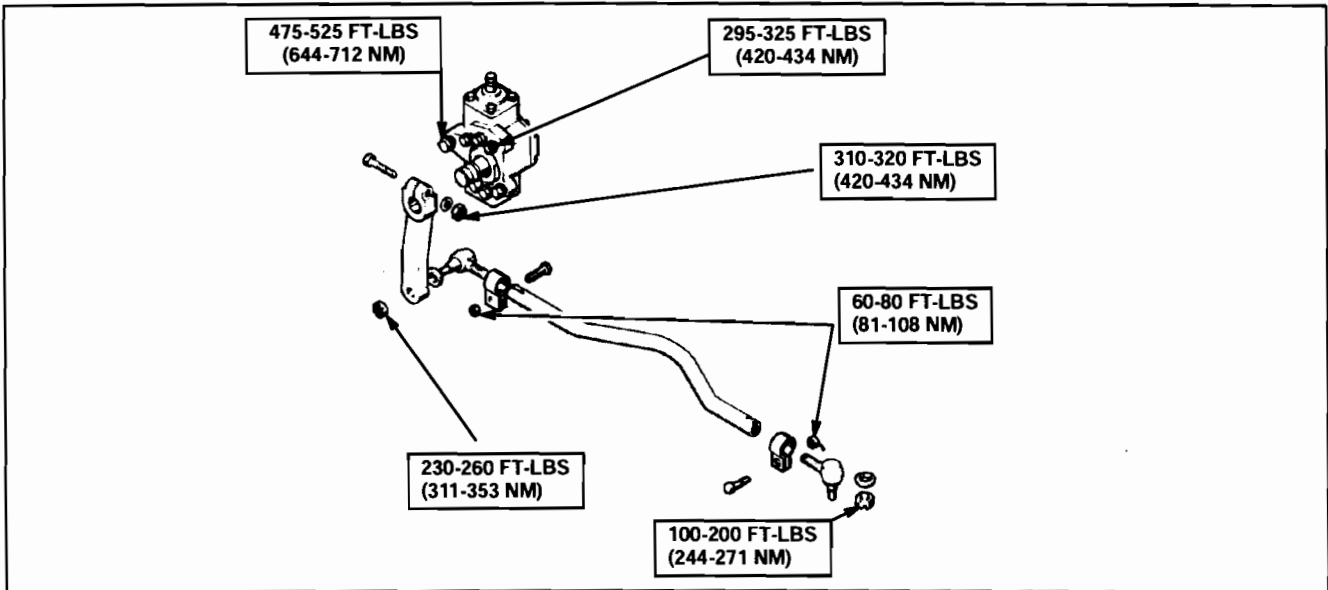

Figure 3. Torque Chart
14. Install gear bolts with hard steel washers. Torque the 7/8 inch bolt to 475-525 ft-lbs ( 644-712 Nm ). Torque the 3/4inch bolts to 295-325 ft.-lbs ( 400-441 Nm ) ( see Figure 3 / Torque Chart ).